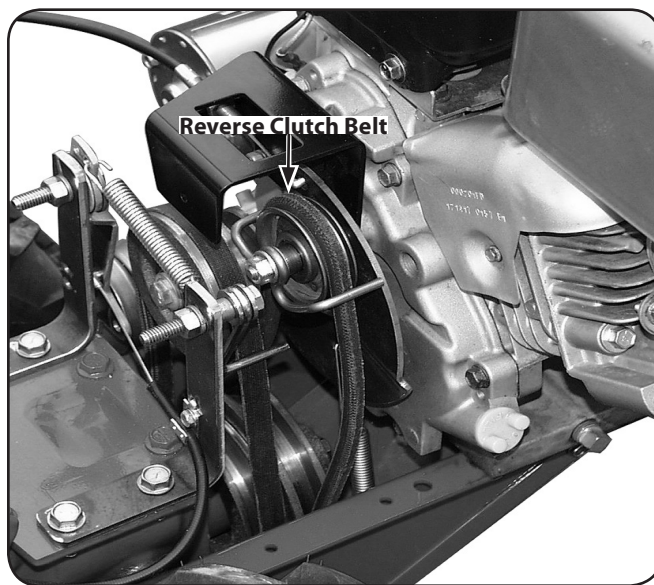

**Figure 6-6**
2. Belt adjustments are done with the forward clutch cable adjuster. Use two  $\frac{1}{2}$ " open-end wrenches to loosen the two jam nuts a few turns. See Fig. 6-6